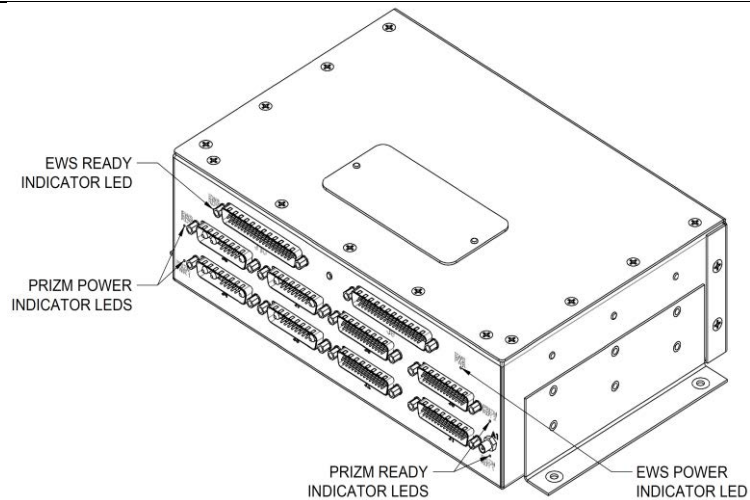
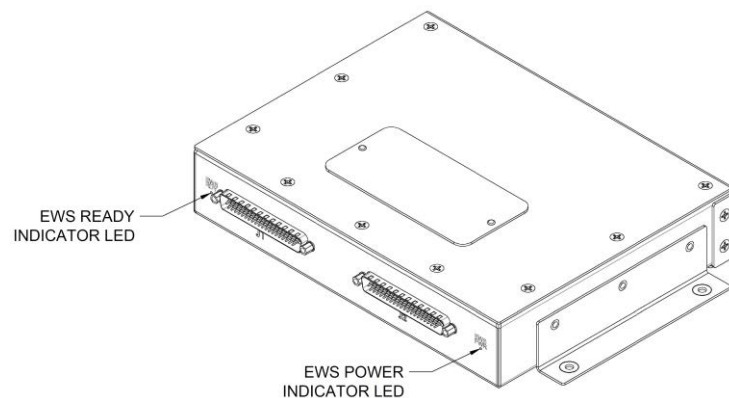

Figure 8-1- Indicator LED Locations (PRIZM with EWS LRU (-54))
Figure 8-2 – Indicator LED locations (Standalone EWS LRU (-020))
8.5.4 Visibly verify the PRIZM PWR (PRIZM 1 PWR & PRIZM 2 PWR) and EWS PWR lights immediately come on. Visibly verify LED light channels 1-4 and 11-14 power on immediately (white light only). See Figure 8-1- **Indicator LED Locations (PRIZM with EWS LRU (-54))** & Figure 8-2 – **Indicator LED locations (Standalone EWS LRU (-020))**
NOTE: Figure 8-1 is for PRIZM & EWS only, Figure 8-2 is for Standalone EWS LRU only.